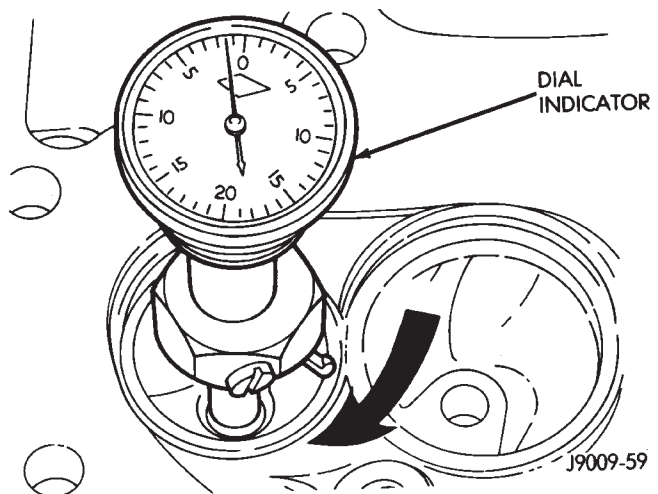

Fig. 60 Measurement of Valve Seat Runout
(1) Install a pilot of the correct size in the valve guide bore. Reface the valve seat to the specified angle with a good dressing stone. Remove only enough metal to provide a smooth finish.
(2) Use tapered stones to obtain the specified seat width when required.
(3) Control valve seat runout to a maximum of 0.0635 mm (0.0025 in.) (Fig. 60).